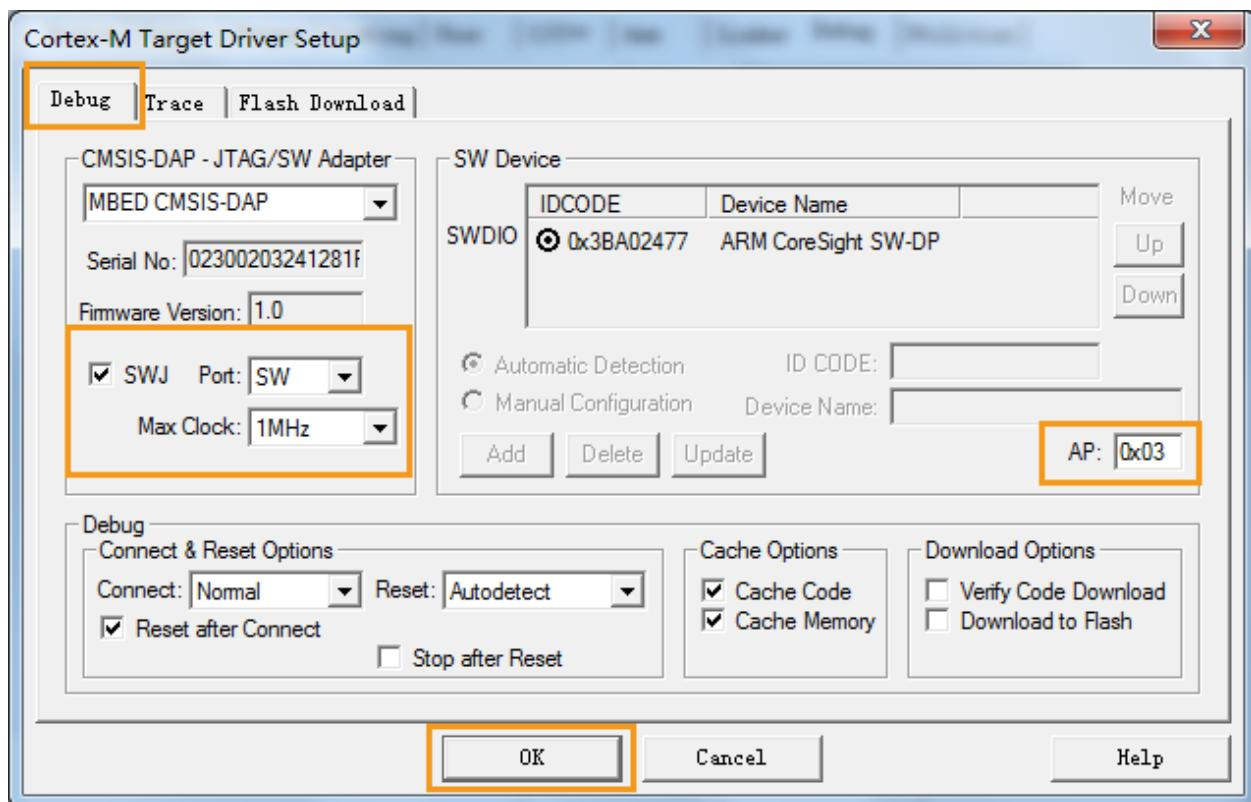

Figure 57. Setting the debug parameters on LinkIt 2523 HDK
- 8) If debugging on LinkIt 2523 HDK, set **AP** as 0x03, as shown in Figure 57.